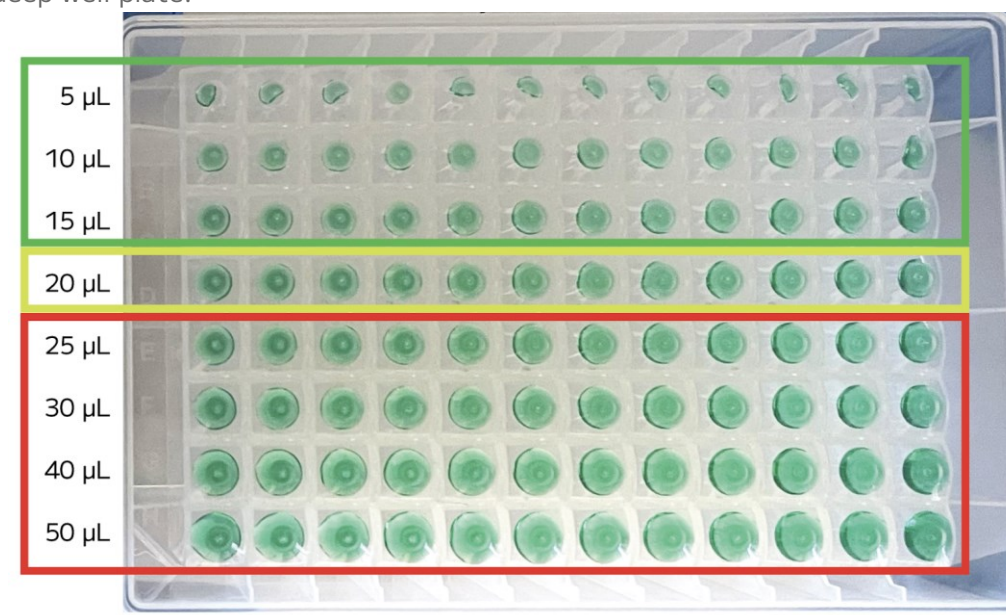

Figure 4: Bottom view of a deep well plate with different volumes of residual supernatant.
- Less than 20  $\mu\text{L}$  of supernatant should be left in each well after Section 2, steps 10 and 30. Figure 4 shows different volumes of supernatant when viewed from the bottom of the deep well plate.